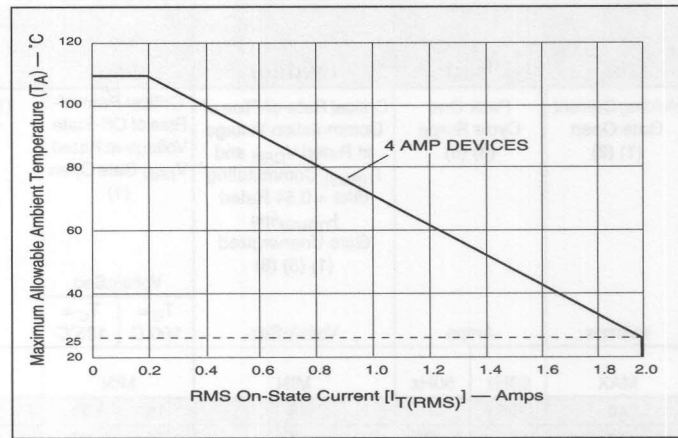

Figure 3.6 Maximum Allowable Ambient Temperature vs On-State Current
- See Figures 3.6, 3.7, and 3.8 for current rating at specific operating temperature.